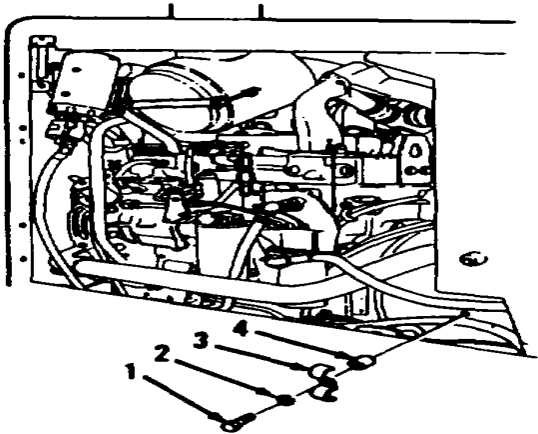
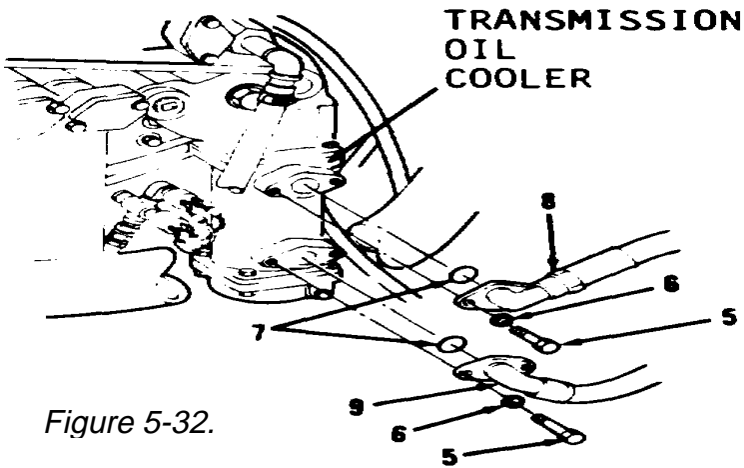
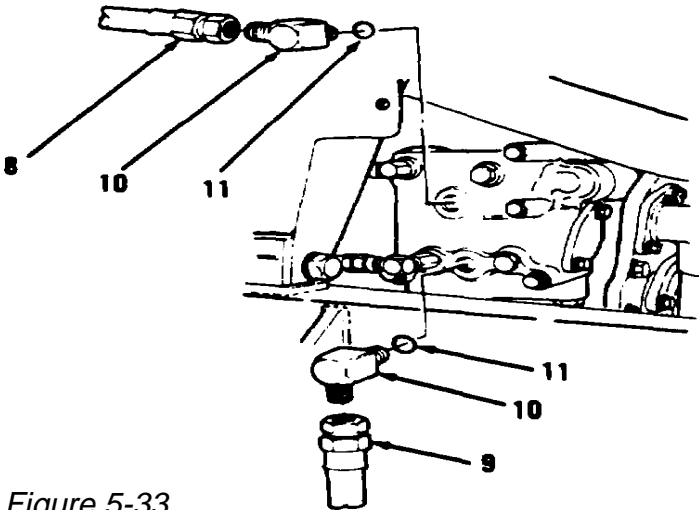

Figure 5-31.
Figure 5-32.
Figure 5-33.
- 1. Remove bolt (1), lockwasher (2), clamp (3) and spacer (4, Figure 5-31) from left side of engine to transmission adapter.
- 2. Remove four bolts (5) and washers (6, Figure 5-32).
- 4. Remove and discard two preformed packings (7).
- 5. Remove hose assemblies (8 and 9, Figure 5-33).
- 6. Remove two elbows (10) and preformed packings (11). Discard two preformed packings (11).
1. Install two new preformed packings (11) and elbows (10, Figure 5-33) on rear, left side of transmission.
2. Connect hose assemblies (9 and 8) to two elbows (10).
3. Position two new preformed packings (7) and connect hose assemblies (9 and 8, Figure 5-32) onto transmission oil cooler.
4. Install four washers (6) and bolts (5).
5. Install spacer (4), clamp (3), lockwasher (2) and bolt (1, Figure 5-31).